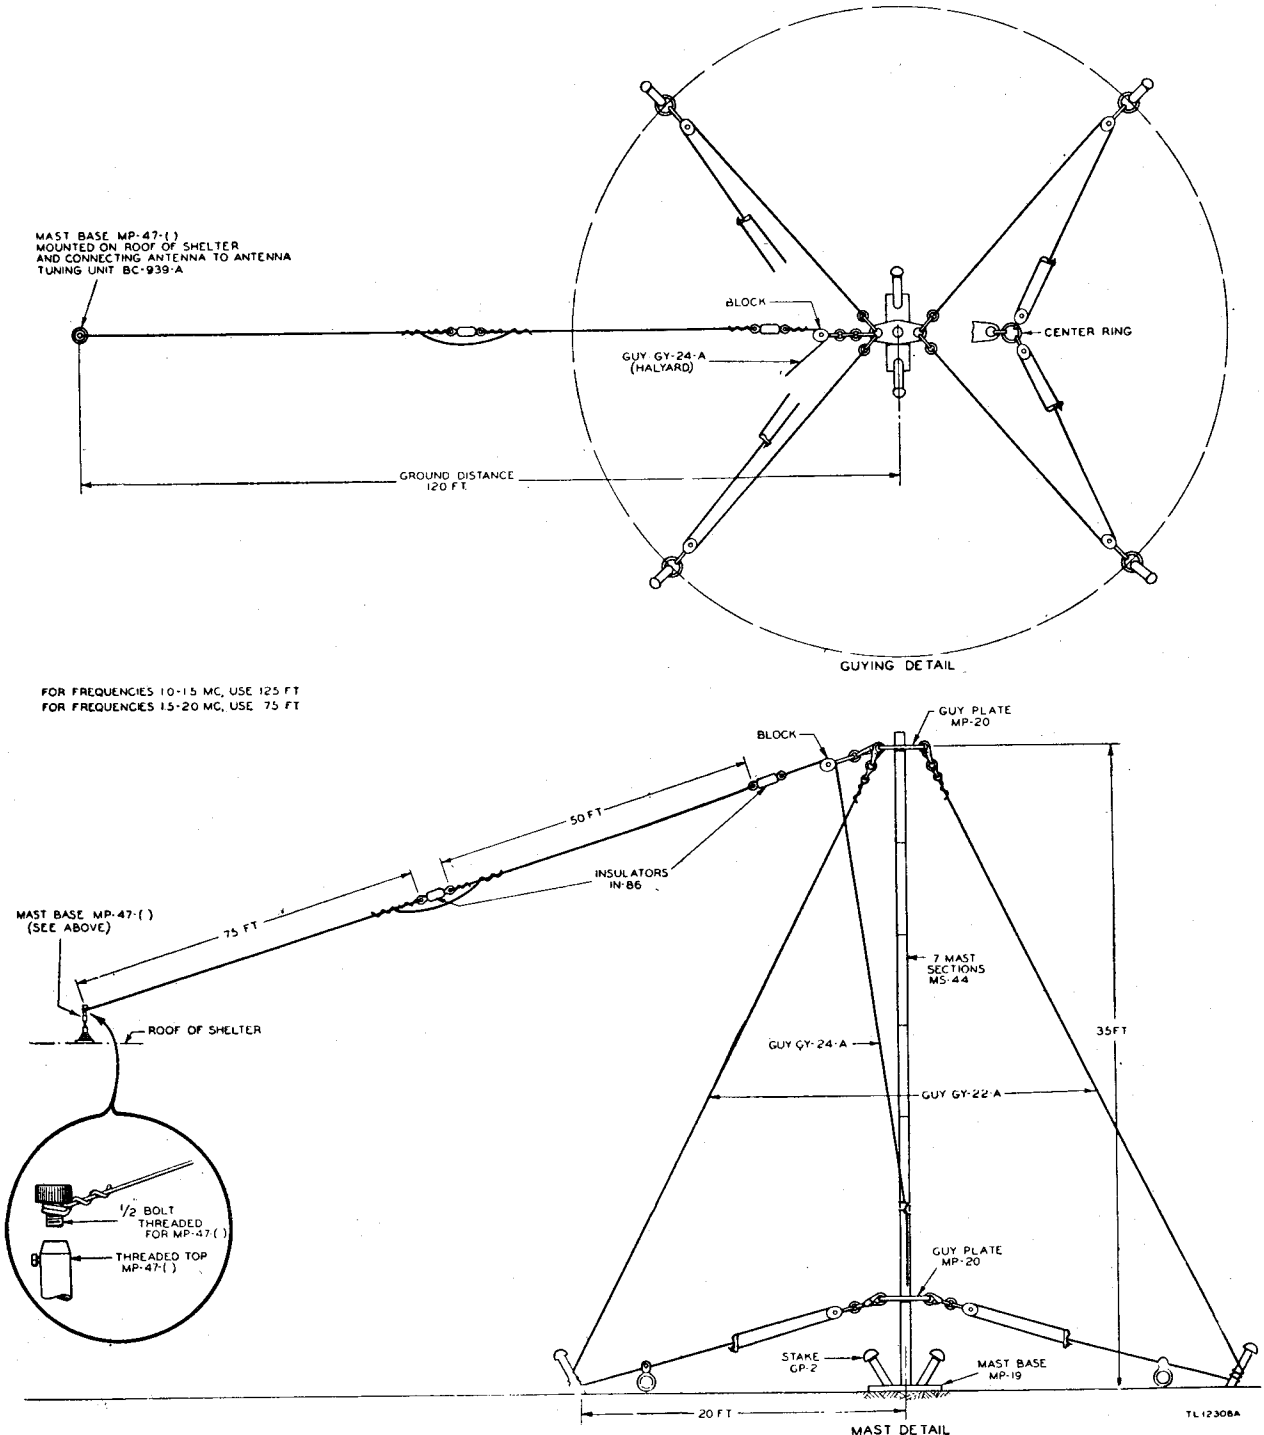

Figure 42. Installation of antenna.
a. From the table of approximate dial settings (table VI), determine the correct antenna length for the selected frequency. If a 125-foot antenna is required, connect a short jumper wire around the insulator separating the 75-foot and the 50-foot lengths of antenna wire. (See fig. 42.) If a 75-foot antenna is required, omit this jumper wire.